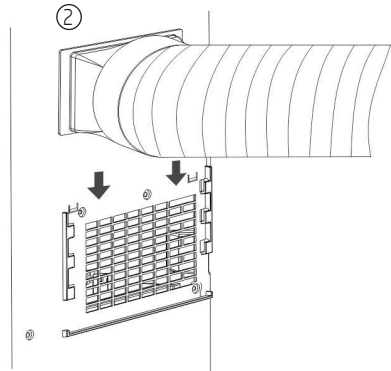

Fig. 4
3. Put the other end of the exhaust hose to the near windowsill (see Fig. 4).